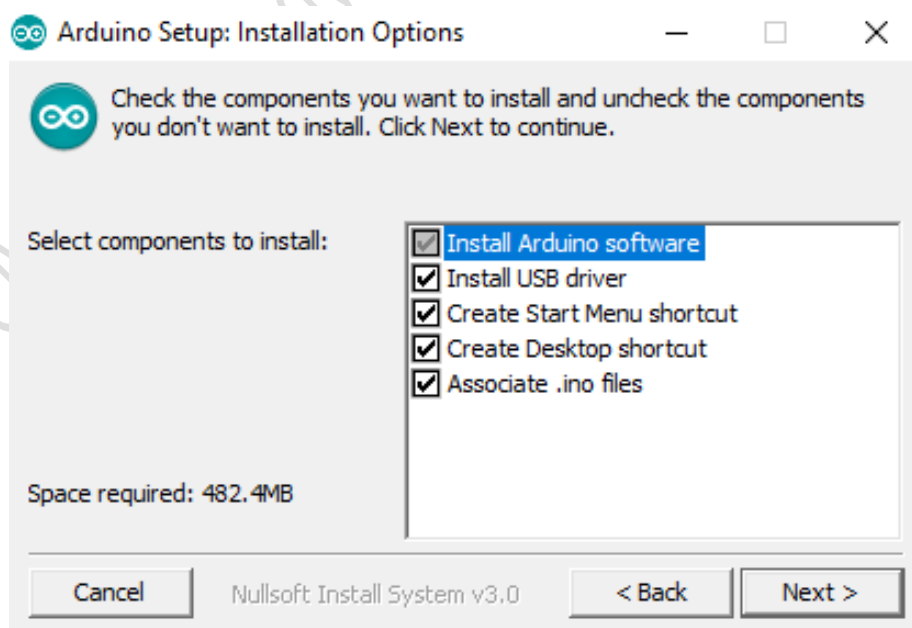

Fig. 2.7: Installing Components Window
1.If the operating system displays a warning message during driver installation, allow the installation to continue. Then, select the required components for installation (Fig. 2.7).